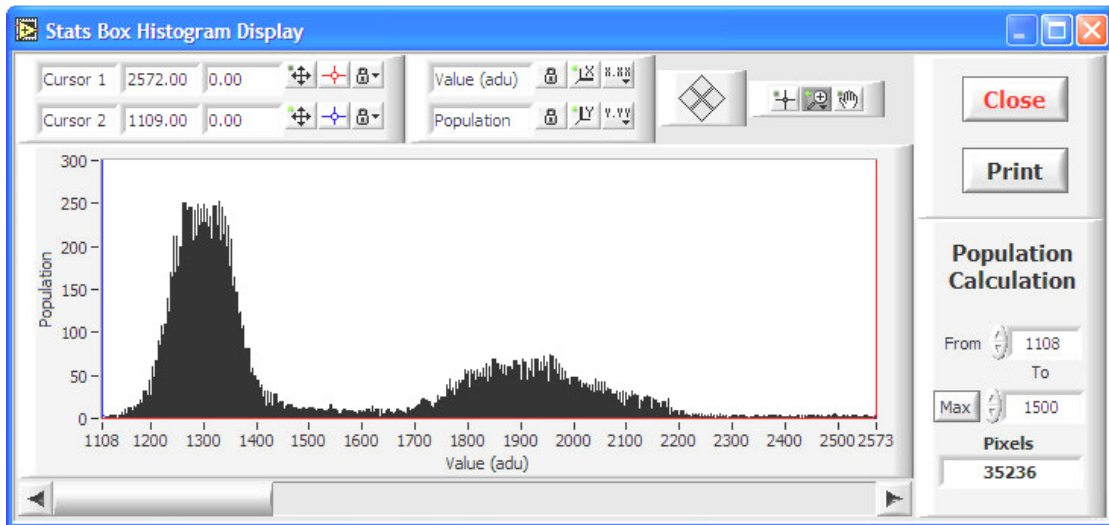

Figure 2.17 Histogram Plot
**Stats Box Histogram** and **Full Image Histogram** provide two options for generating a histogram of image pixel data. Either the region that defines the stats box or the entire image is used depending upon the selection made (see section 3.5 for a description of the "stats box"). Selecting either option brings up a second floating window, shown in Figure 2.17, that has all of the same graphical controls as the plot